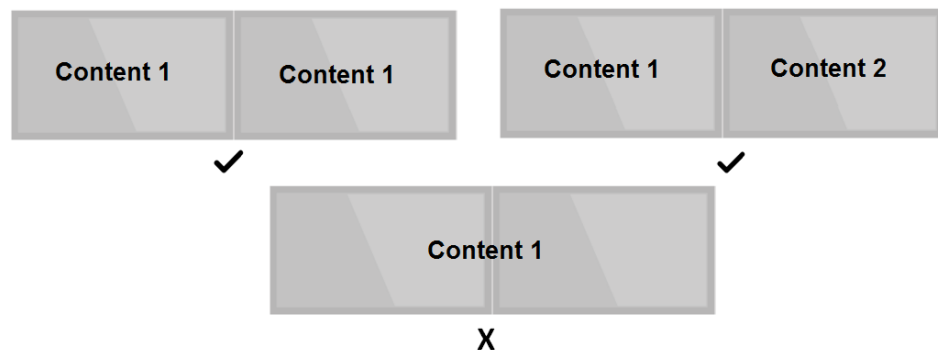

Figure 5.6 Dual Display Support
- The USM-110 device can support dual displays but cannot support the presentation of a single video or image across two displays (as shown in Figure 5.6).